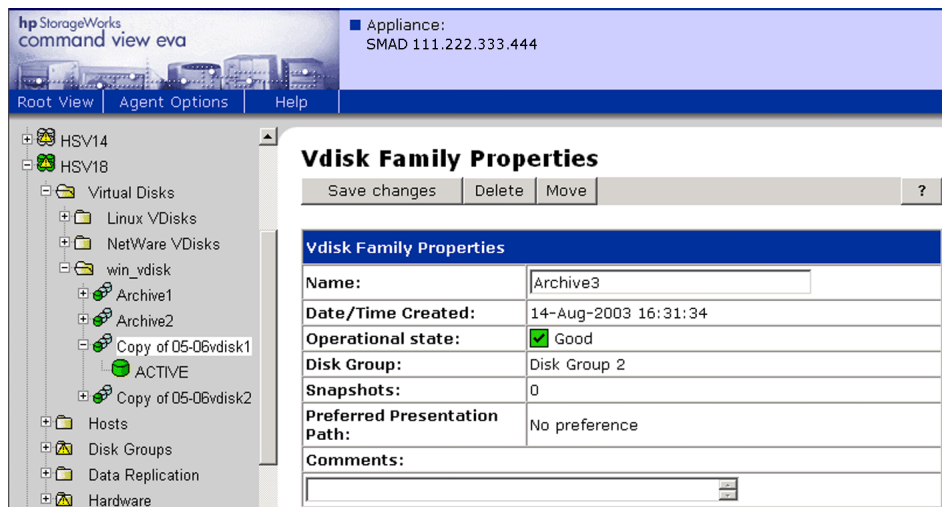

Figure 78: Vdisk Family Properties page
- Select the Vdisk in the navigation pane. The Vdisk Family Properties page is displayed (Figure 78).